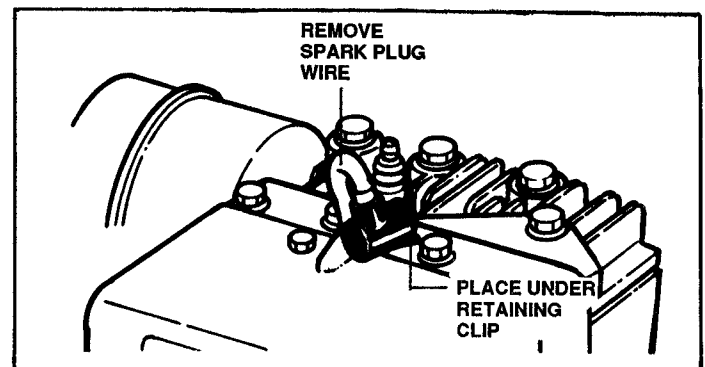

FIGURE 8
3. Remove spark plug wire from spark plug and place under the spark plug retaining clip, located on the head of the engine. See Figure 8.
- 2. Remove spark plug wire and place under the spark plug wire retainer clip, located on the head of the engine. Refer to Figure 8.